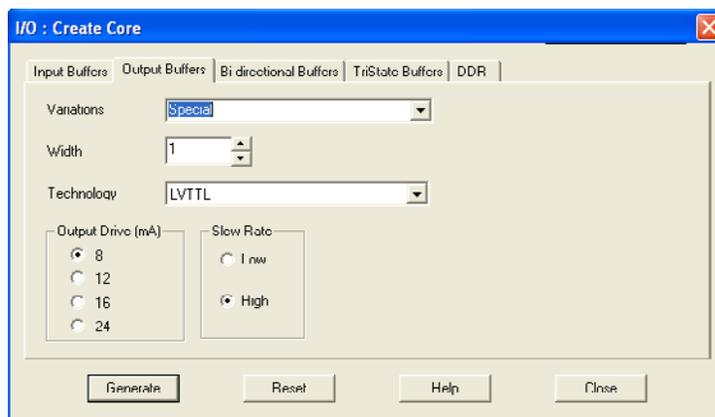

Figure 7 • Output Buffer Selection
- Select the **Output Buffers** tab (Figure 7).